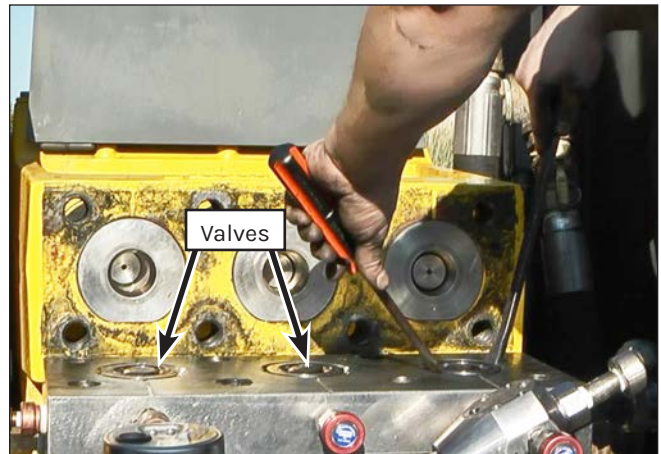

Figure 104: Valve Removal.
7. Use two small pry bars (Jetstream p/n 70179) to pry the valve out of the manifold as shown in (Figure 104).